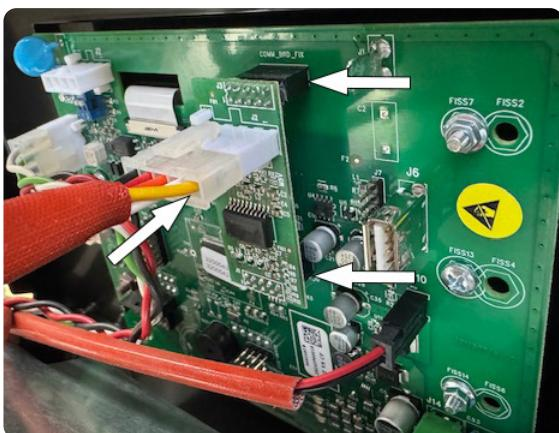

Fig. 9
- ◆ Fix the 5602689 (pos.5) Modbus RS485 circuit to the rear side of the 5602582 panel circuit using connectors J1 and J4 as indicated in fig.9
- ◆ Connect the 4-pole connector at the opposite end of the 5587467 (pos.6) connection to the connector J2 of the 5602689 (pos.5) Modbus RS485 interface circuit, as shown in fig.9